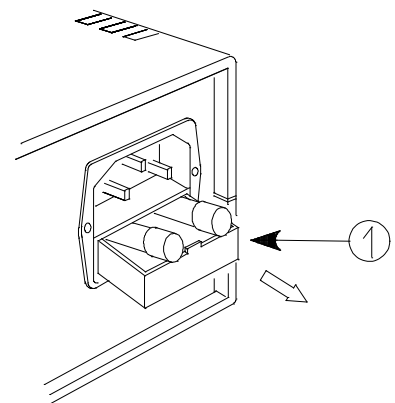

fig.3
Pull out the power cord from the power unit and open the fuses shell as shown in (1) fig.3